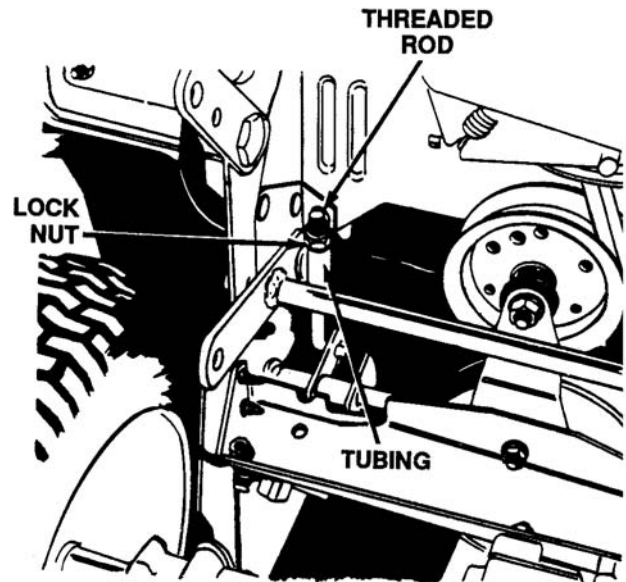

Figure 12-24. Location of Threaded Rod
1. Place the lift handle in the highest cutting position (first notch down from disengaged position). The approximate adjustment is to have the lock nut on the threaded rod (above the rear of the deck) touching the end of the tubing. See Figure 12-24.
12-7.1 This deck is similar to the deck used on the 300 series, except for the mounting brackets and idler system. However, these two decks are not interchangeable. See Figure 12-24.